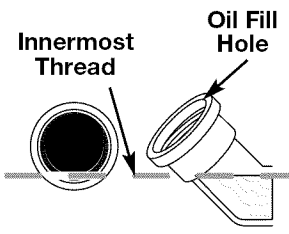

Fig. 17
5. Look into the oil fill hole (use a flashlight if needed). The oil should be just touching the innermost thread (Fig. 17).
6. If the oil level is not touching the innermost thread on the oil fill hole, add a small amount of oil to the oil fill hole and recheck (Fig. 17). Repeat this procedure until the oil level reaches the innermost thread on the oil fill hole.
NOTE: Use the bottle and spout saved from initial use to measure the correct amount of oil. The fill line on the label on the bottle measures approximately 2.03 ounces (60 ml) (Fig. 20). Check the level, See Checking the Oil Level. If the level is low, add a small amount of oil and recheck. Do not overfill (Fig. 17).